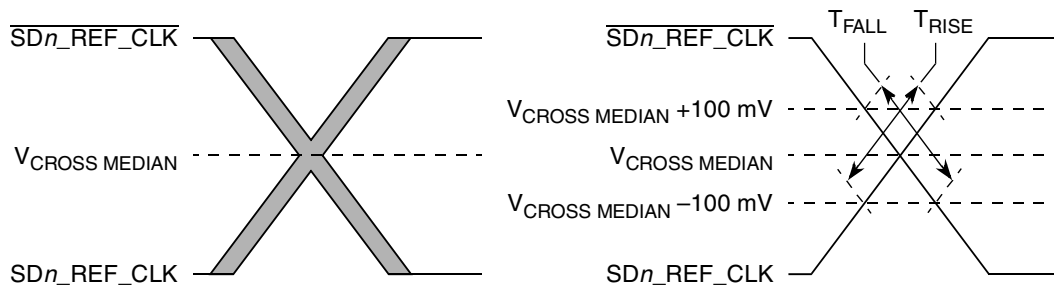

Figure 64. Single-Ended Measurement Points for Rise and Fall Time Matching
4. Matching applies to rising edge rate for SDn_REF_CLK and falling edge rate for $\overline{SDn_REF_CLK}$. It is measured using a 200 mV window centered on the median cross point where SDn_REF_CLK rising meets $\overline{SDn_REF_CLK}$ falling. The median cross point is used to calculate the voltage thresholds the oscilloscope is to use for the edge rate calculations. The Rise Edge Rate of SDn_REF_CLK should be compared to the Fall Edge Rate of $\overline{SDn_REF_CLK}$, the maximum allowed difference should not exceed 20% of the slowest edge rate. See Figure 64.